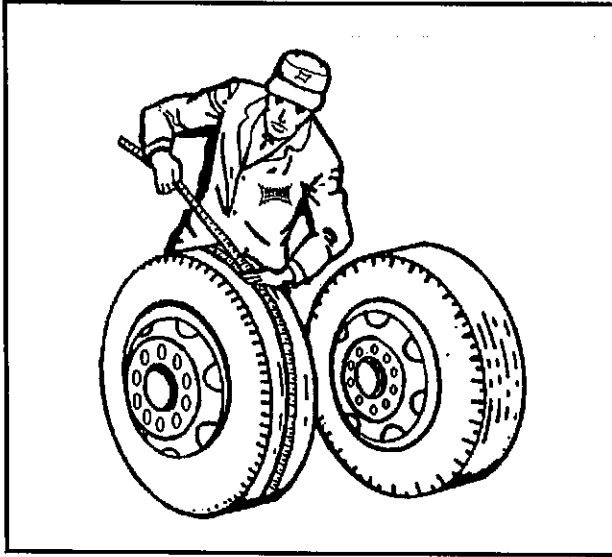

FIG. 6-5 CHECKING TIRE SIZE WITH MEASURING TAPE
a. Measure around each tire on the tread surface. A maximum difference of $\frac{3}{4}$ " in the measurements is allowed between the two mating tires of a dual (See FIG. 6-5).